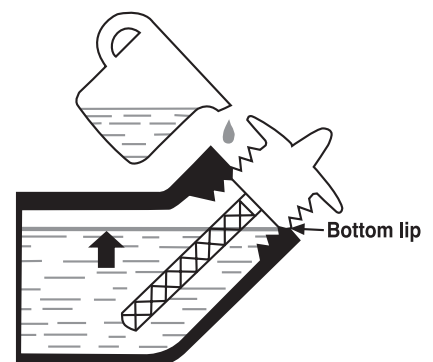

Figure 12
- 3) If the oil level is halfway up the dipstick or below, refill with SAE 10W30 oil through the dipstick hole until the oil level reaches 3/4 up the dipstick or until it reaches the bottom lip of the dipstick hole as shown in illustration Fig.12.